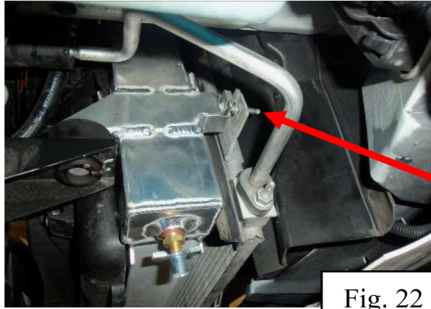

Fig. 22
20. Place the studs in the bottom front mounts of the radiator for the condenser to slide onto (Fig. 22 & 23). Place the nuts onto these studs but do not tighten.